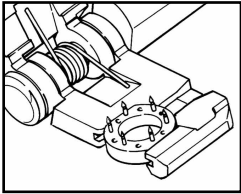
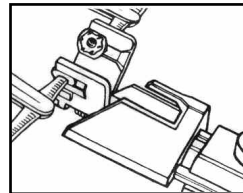

Figure 5a
Figure 10
7. Visually inspect to see that both rings are seated at the bottom of the U portion of the jaw and the pins are not bent (See Figures 5a & 5b). If pins are bent, do not attempt to straighten. Instead use a new FLOW COUPLER Device.
11. When both vessel ends have been suitably impaled, visually inspect to ensure that both rings are seated at the bottom of the U portion of the jaw and the pins are not bent (See Figures 5a & 5b). Bring the rings together (See Figures 10 & 11) by turning the Anastomotic Instrument knob clockwise.